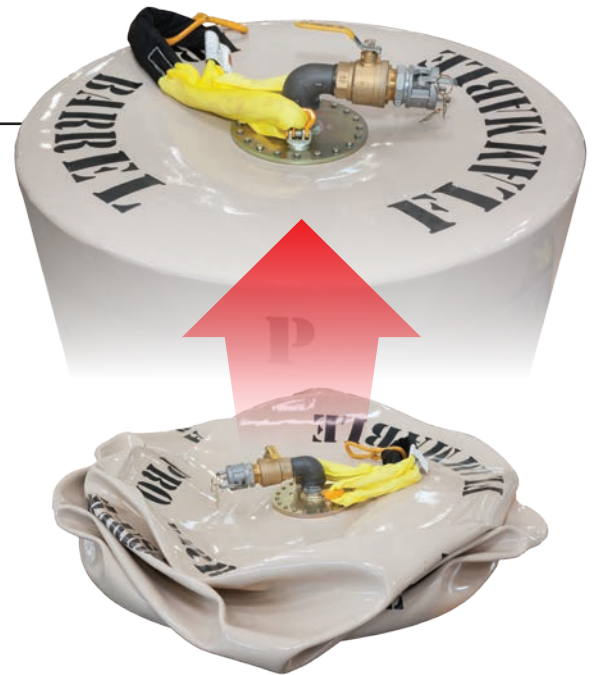

Figure 4. Pro Barrel fully collapsed
D. The Pro Barrel is easiest to fill if it is collapsed with the fill plate facing up like a pancake. (See Figure 4 on Page 2.)